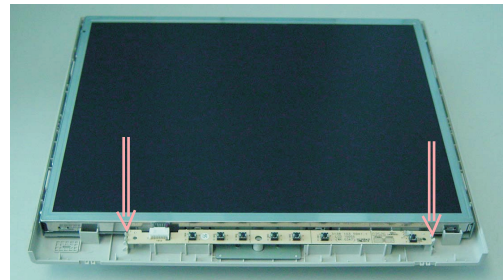

Fig.9
- Remove the two clicks as shown in Fig.9 ,then remove the Control board